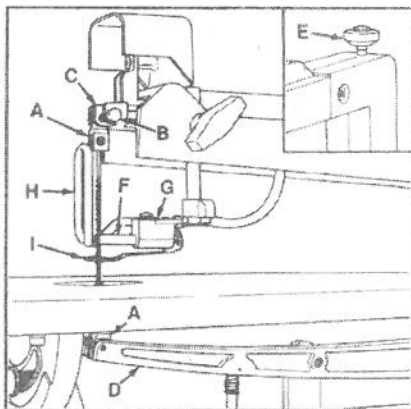

Figure 8. Blade mounting system.
(See Figure 8.) The blade first is clamped securely between two mounting blocks in the blade mounting fixture. Then, installed on the saw, each mounting block (A) is engaged by a spring-loaded lock pin (B) in the upper (C) and lower (D) arm assemblies. Blade tension is controlled by the tension knob (E). Turning the knob clockwise increases tension, counterclockwise decreases tension. The tensioning system produces a clicking sound. The blade, when plucked like a guitar string, will make high pitched sounds as tension increases and low pitched as tension decreases.